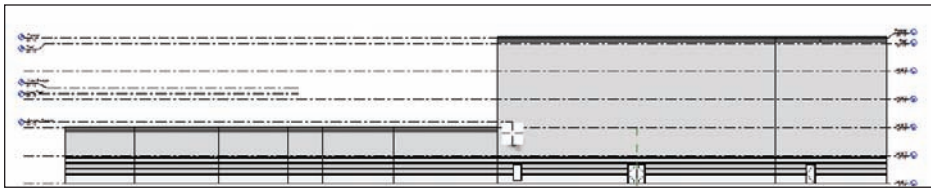

FIGURE 3.27 All of the levels are in place for now.
13. Drag the right side of the line to an area approximately as shown in Figure 3.27.